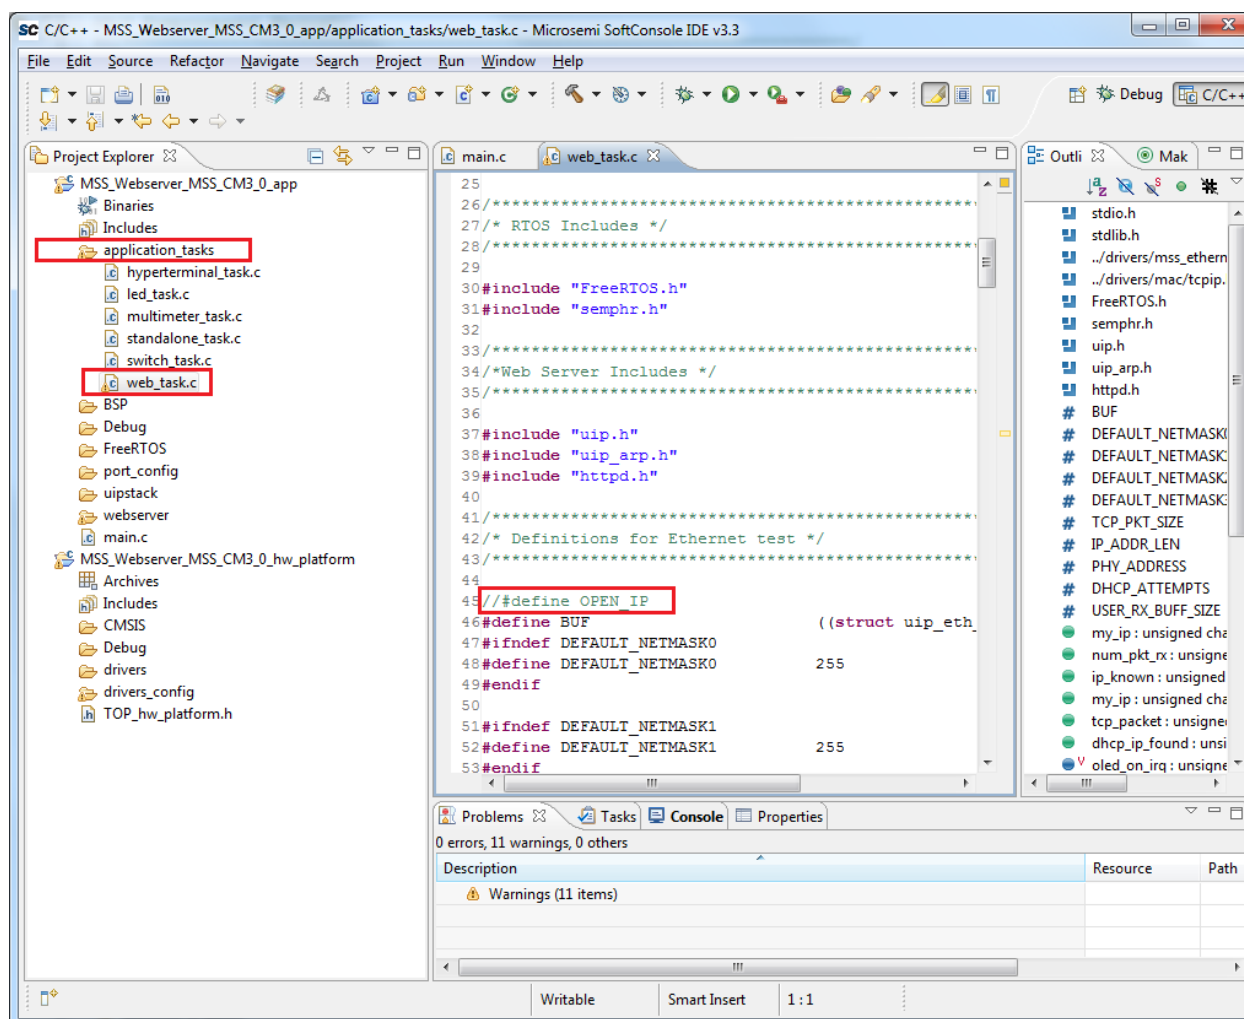

Figure 2 • Changes To Be Made for Webserver Demo with Static IP
2. Comment the line: `#define OPEN_IP` in the `web_task.c` file under the `application_tasks` folder, as shown in Figure 2.